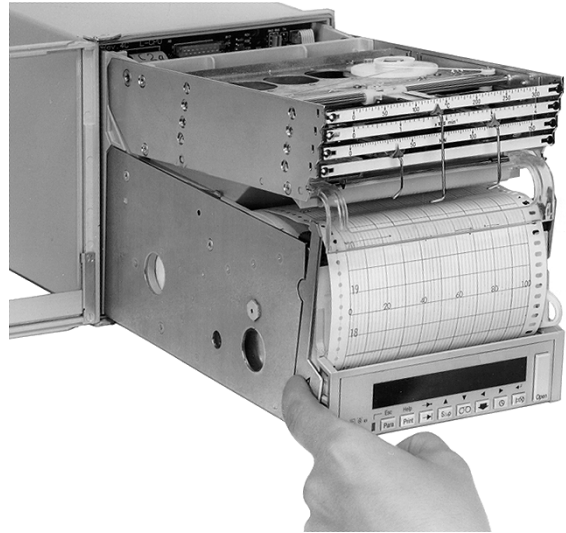
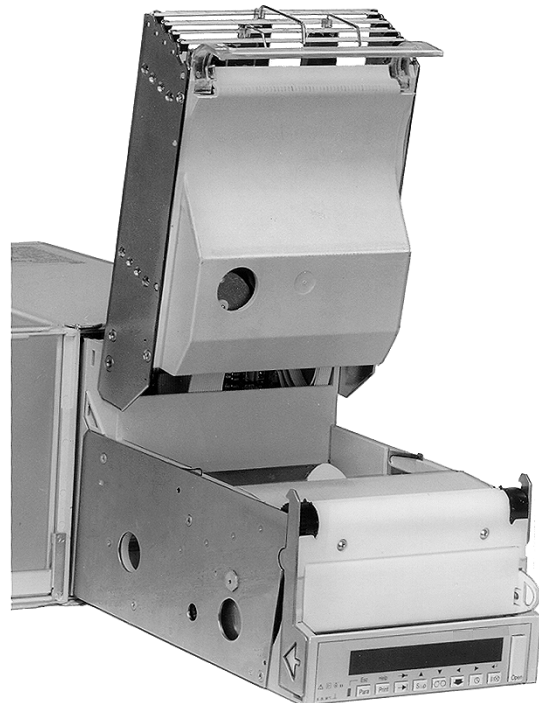

Figure 8 Recording table for fanfold chart
Figure 9
2. Unlock the system carrier and unfold it up to the stop (see Figure 8 and Figure 9).